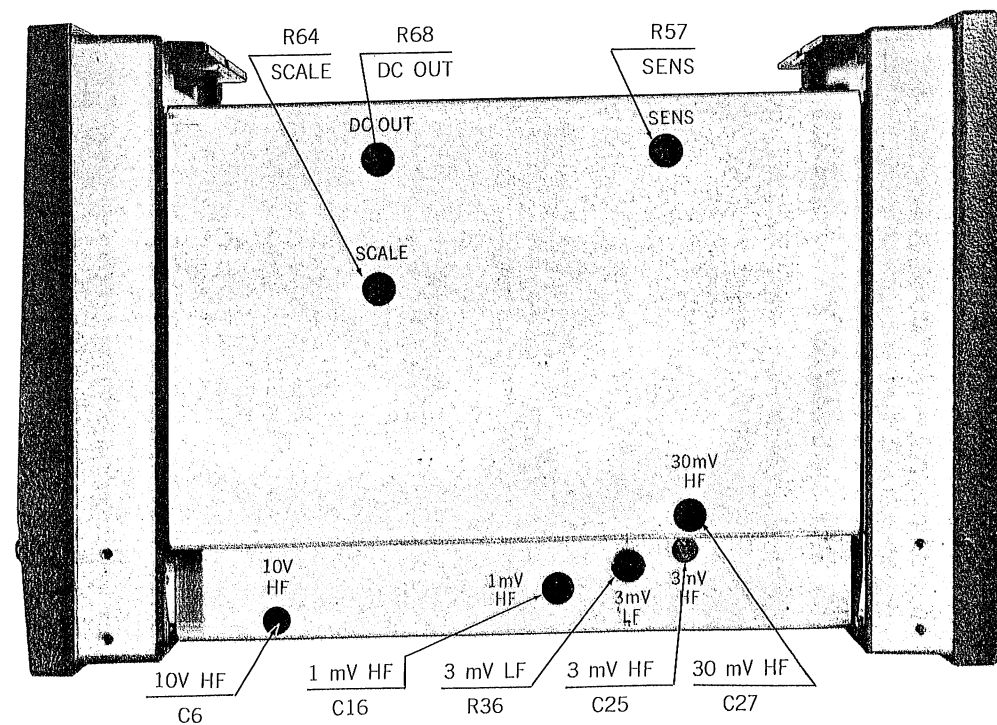

Fig. 13. Instrument Adjustments, Side View
- B. Reduce the signal level by the precise factor of 0.3162 (10 dB) and note the indication on the scale. If the meter does not indicate 3.162 (1 on the lower scale) adjust the SCALE adjustment (see Fig. 13) for this indication.
- If the deviations on the 3 mV, 10 mV, or 30 mV ranges exceed $\pm 0.25\%$, reduce these by adjusting the 3 mV LF adjustments (see Fig. 13) for better agreement with the 1 mV range.
- Adjust the SENS control (see Fig. 13) so that the maximum positive and maximum negative errors obtained in step B are equal.
- Connect a signal to produce an indication of precisely 10 on the scale, and note the dc output voltage. If this is not -1.0 , $\pm 1\%$ V, adjust the DC OUT control (see Fig. 13) for this condition.